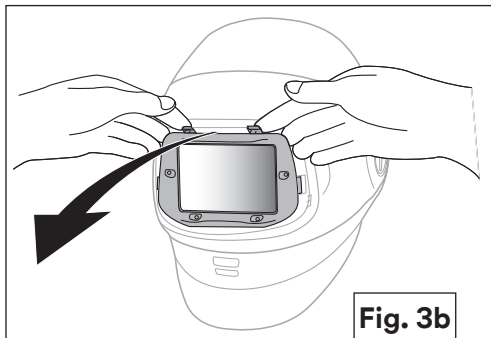

Fig. 3b
- b. There are two small tabs at the top of the ADF. Push down on the tabs and pull the ADF out of the welding helmet (Fig. 3b).